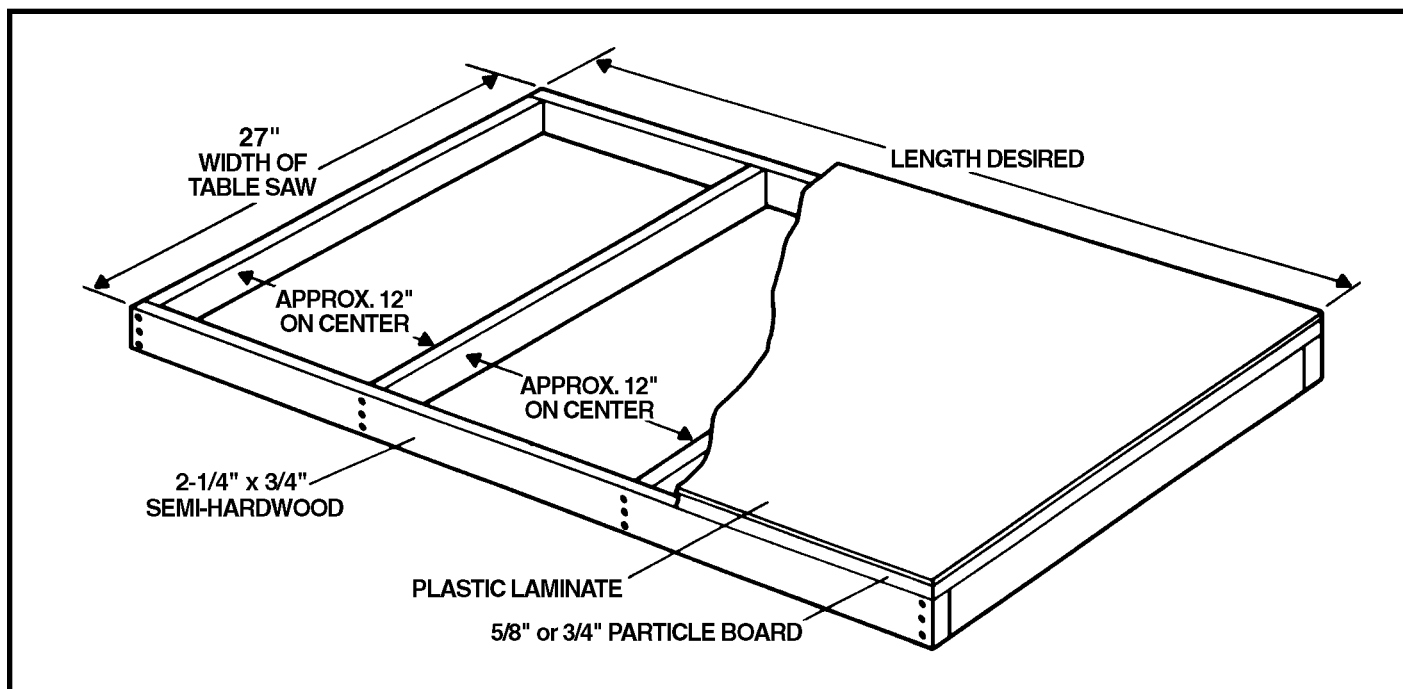

Fig. 81
6. If you did not purchase the accessory right extension table for use with your T-Square® fence, construct an extension table by following the dimensions shown in Fig. 81.